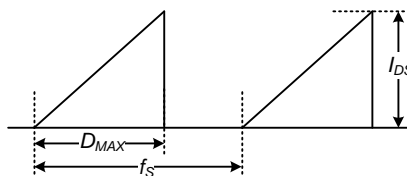

Figure 4. Repetitive Peak Switching Current
7. Repetitive peak switching current when the inductive load is assumed: Limited by maximum duty ( $D_{MAX}=0.73$ ) and junction temperature (see Figure 4).